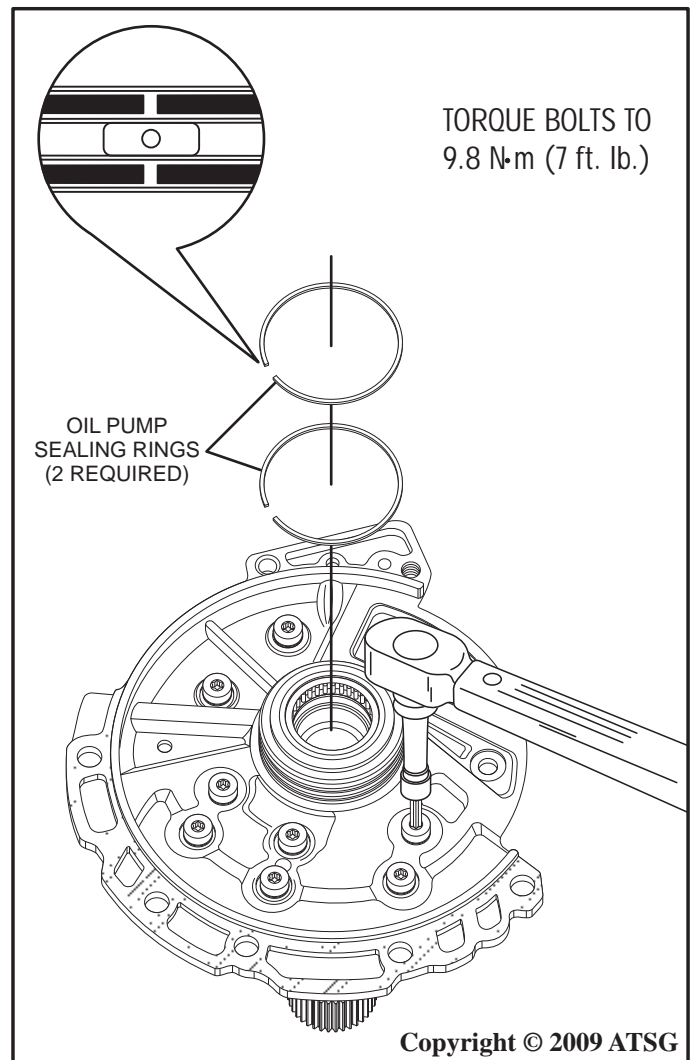

Figure 91
13. Align the oil pump body with the oil pump cover and install the eleven pump cover to pump body retaining bolts as shown in Figure 91.
14. Using a torque wrench, torque the bolts to **9.8 N·m (7 ft. lb.)** as shown in Figure 91.
15. Install two new oil pump sealing rings onto the oil pump cover assembly and coat the rings with a small amount of Trans-Jel® as shown in Figure 91.